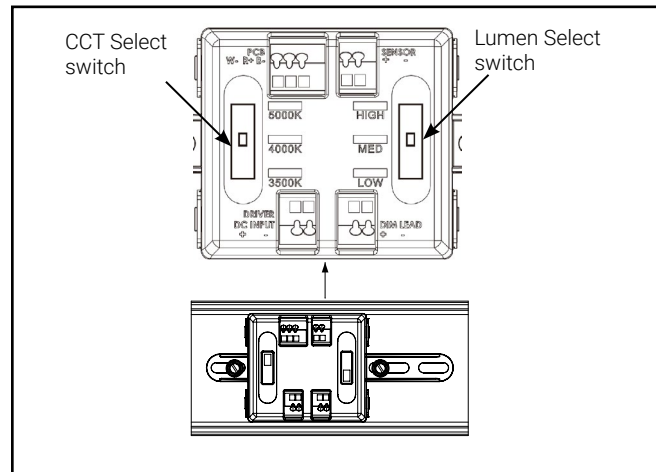

Figure 6.
2. To select CCT, slide the first switch to the desired LED color temperature (3500K, 4000K, 5000K CCT) (Figure 6).
3. To select lumen, slide the second switch to the desired wattage output (Low, Medium, High) (Figure 6). Refer to SNX specification sheet for lumen values.